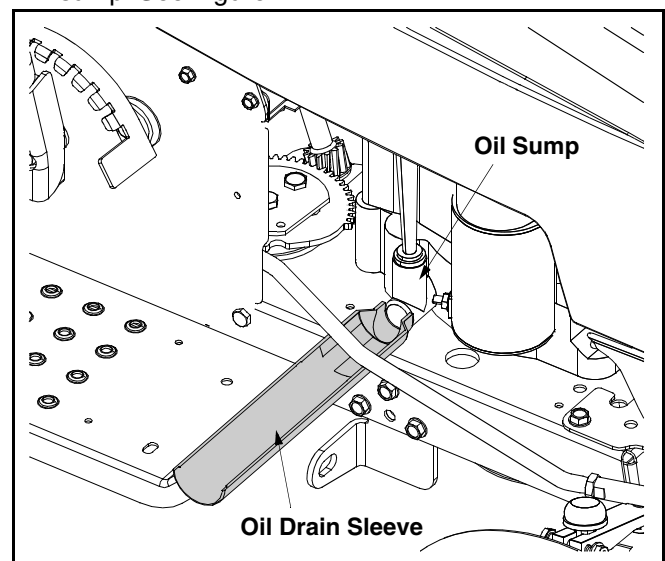

Figure 21
- Snap the small end of oil drain sleeve onto the oil sump. See Figure 21.